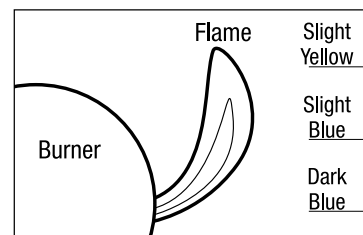

FIG. 3
- After lighting, observe the burner flame. Make sure all burner ports are lit and flame height matches illustration. **Fig. 3.**